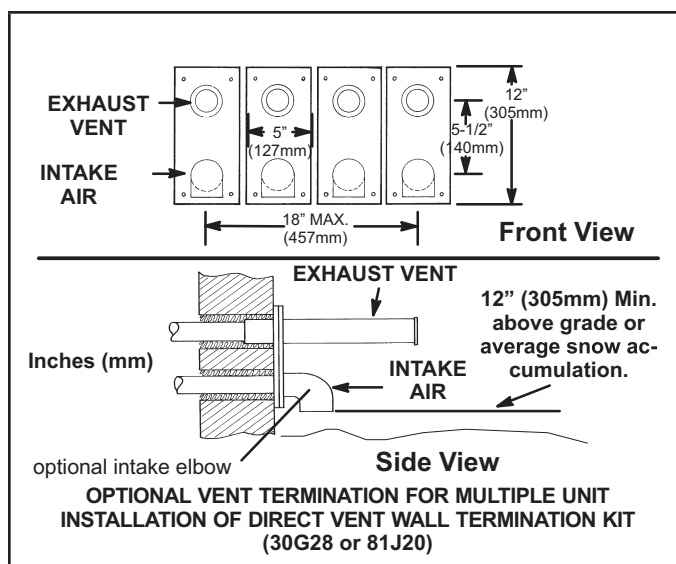

FIGURE 30
- 8 - Based on the recommendation of the manufacturer, a multiple-furnace installation may use a group of up to four terminations assembled together horizontally, as shown in FIGURE 30.